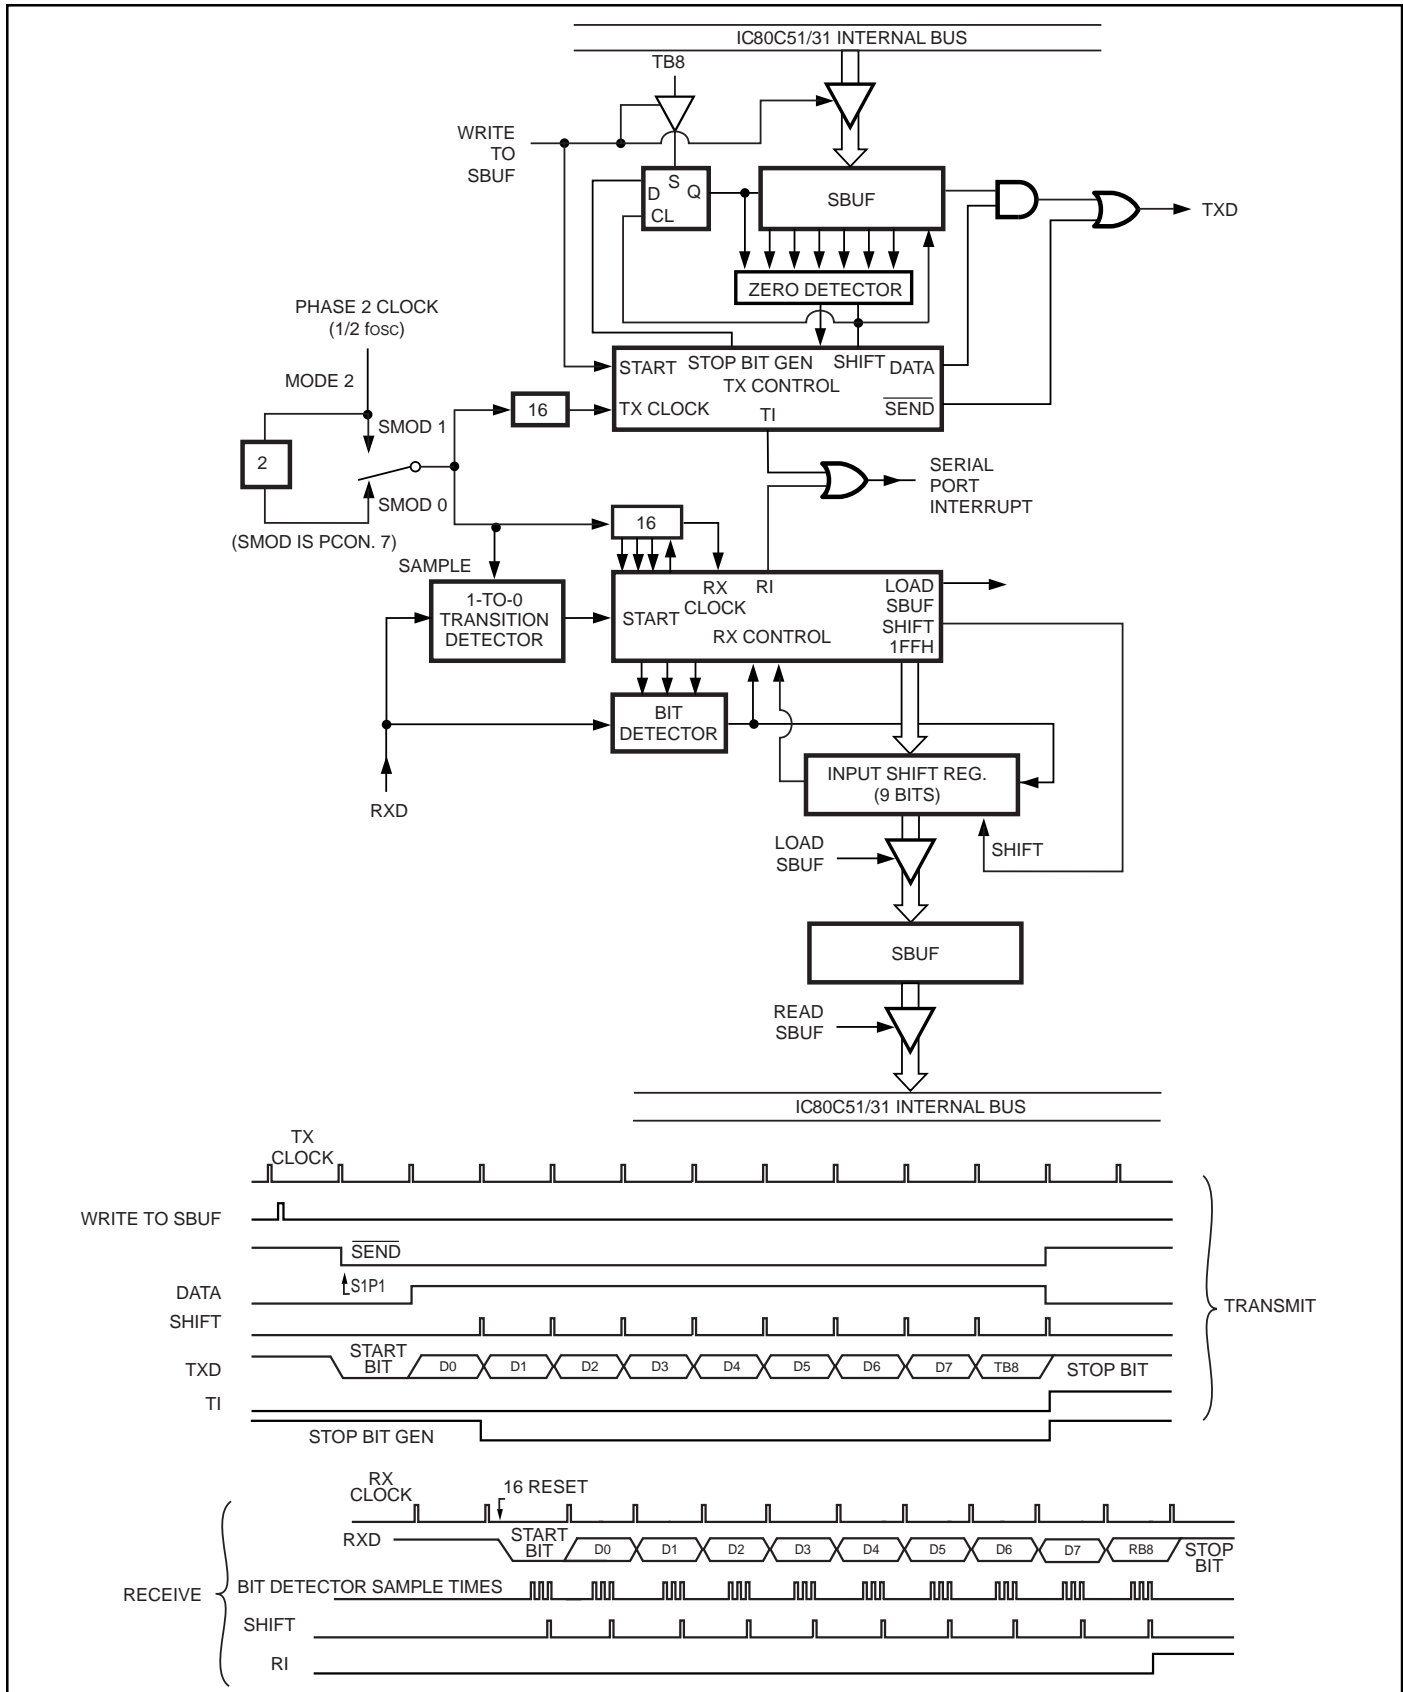

Figure 13. Serial Port Mode 2
Eleven bits are transmitted (through TXD) or received (through RXD): a start bit (0), eight data bits (LSB first), a programmable ninth data bit, and a stop bit (1). On transmit, the ninth data bit (TB8 in SCON) can be assigned the value of 0 or 1. Or, for example, the parity bit (P, in the PSW) can be moved into TB8. On receive, the ninth data bit goes into RB8 in Special Function Register SCON, while the stop bit is ignored. The baud rate is programmable to either 1/32 or 1/64 the oscillator frequency (see Figure 13).